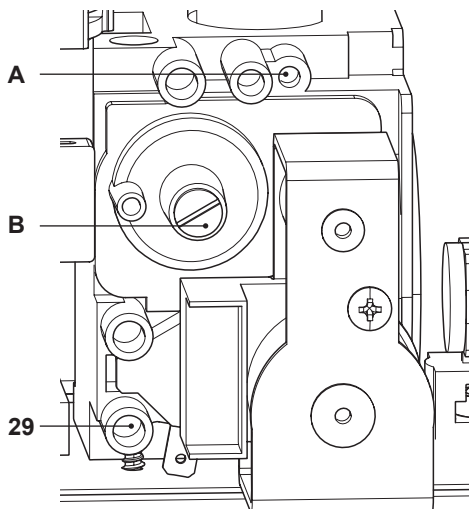

Fig. 7.8
- With the boiler switched on at full rate (maximum output power), check the supply pressure by using the 29 point in Fig. 7.8 and compare the value with that reported on the Gas supply pressure table (minimum inlet pressure) in the "Technical Data" section (page 26 **ADVANCE 25C**).
- Ensure the test nipple 29 in Fig. 7.8 is firmly closed.